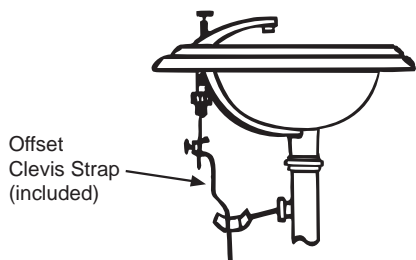

FIGURE 4
9. Install the faucet fittings and waste assembly onto the lavatory. **NOTE: An offset clevis strap has been included with your new lavatory. This will simplify installation of the pop-up waste when installed as shown. See Figure 4.**